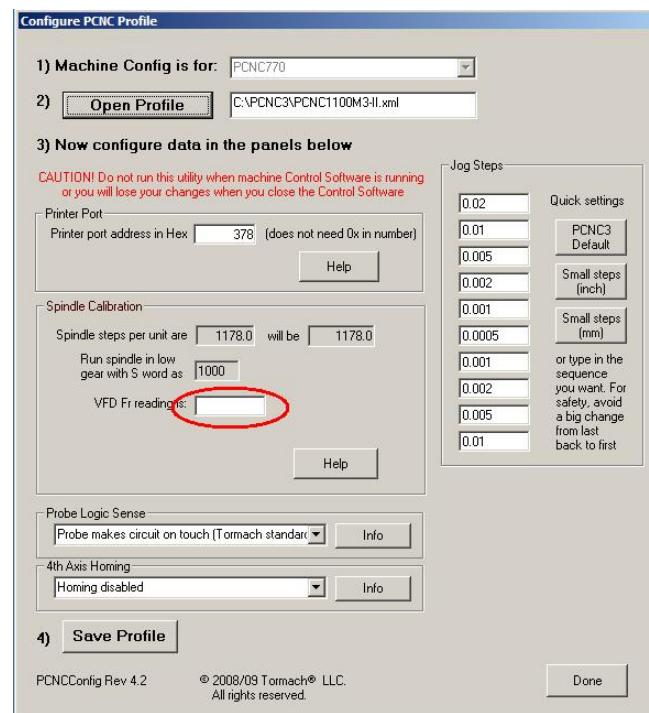

Figure 9.11 – The measured frequency
6. Next, under the “Speed Calibration” heading enter the frequency you recorded earlier (figure 9.11). The software will display a new “Spindle steps per unit” value.